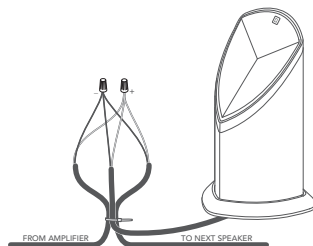

Figure 8
8. Cut the two wires for the left or right speaker (see the tables below) and strip 3/4" of insulation on the exposed ends of the burial wires, then strip 3/4" insulation from the ends of the corresponding speaker's pigtail (see Figure 8).
9. Create a loop of approximately 10", and use a wire tie to hold the wire loop and speaker pigtail in place to provide strain relief, as shown in Figure 8.